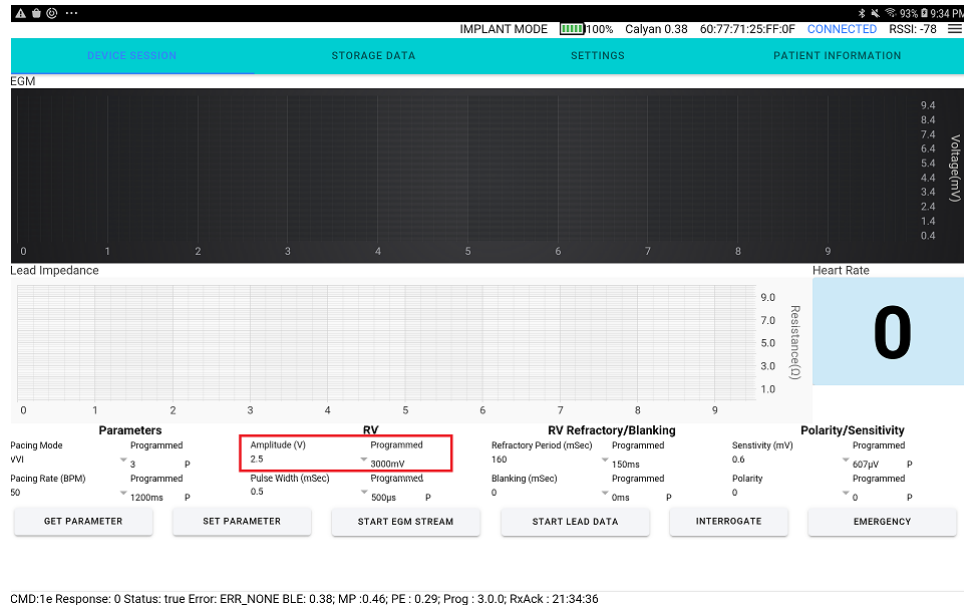

Figure 10: Highlight Change
- 5. Whenever the value of a parameter in the field does not match the programmed value, the “P” next to the programmed values disappears. The value that has changed has a blank in place of the programmed icon (Figure 10).